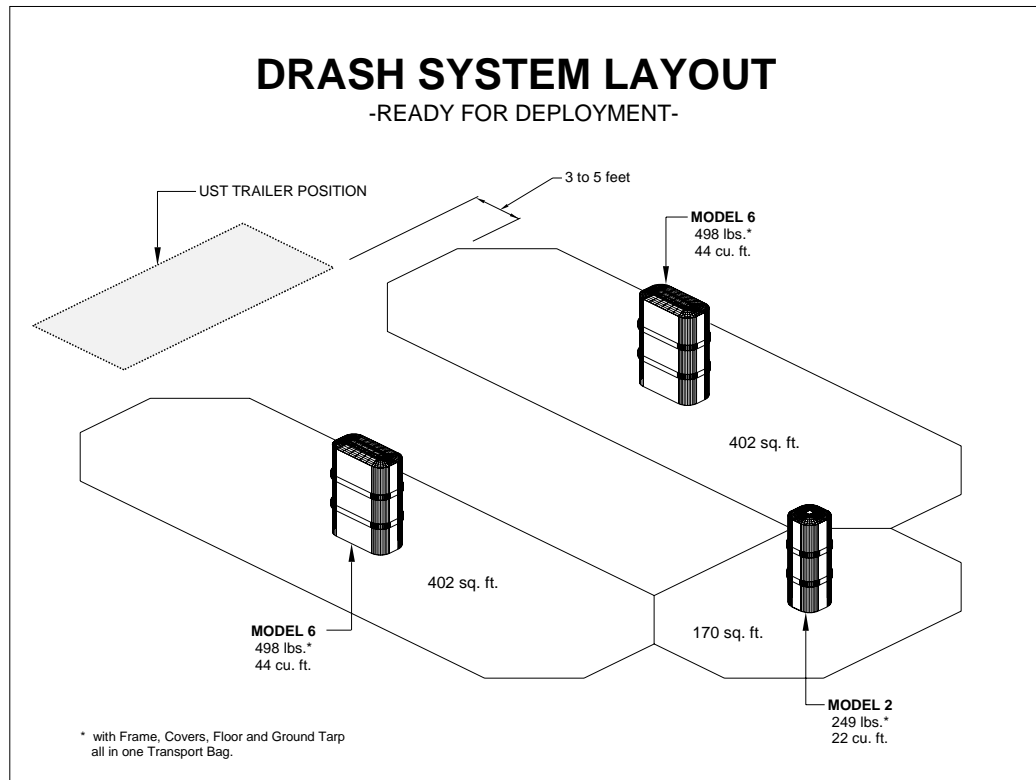

Figure 2-13 - Shelter Complex Layout
2. The recommended layout is a “U” with the trailer positioned at the open end of the “U.” This “U” shape permits the most efficient application for heating or cooling as well as power distribution. Refer to Figure 2-13.